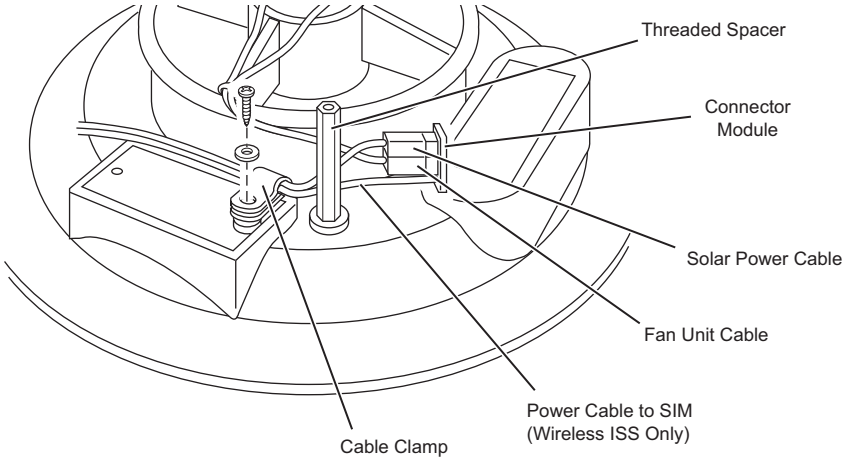

Figure 15. Clamp Power Cable and Solar Power Cable
5. Tuck the cables behind the spacer as shown in Figure 15..